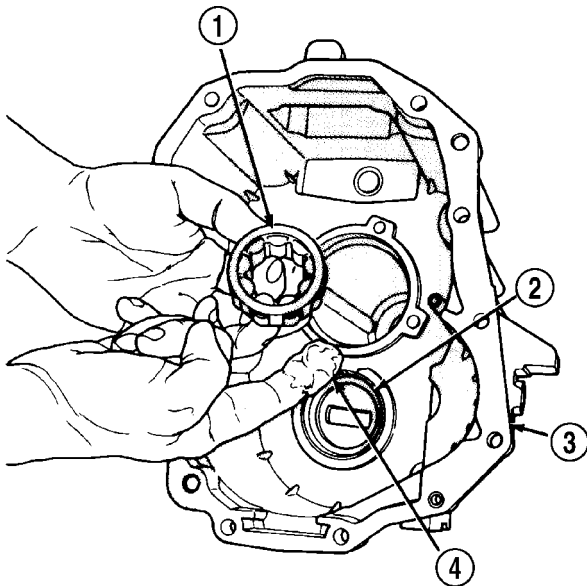

Fig. 96 COUNTERSHAFT REAR BEARING
(3) Install countershaft rear bearing in bearing race (Fig. 96).